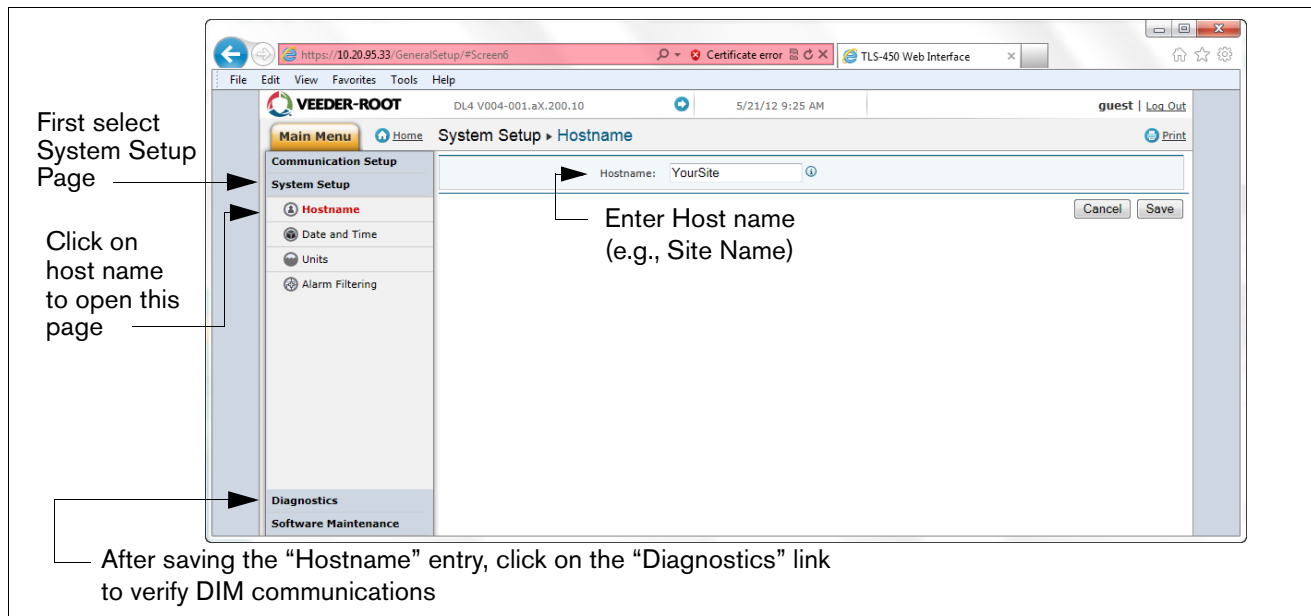

Figure 16. Entering Host name
13. Select the “System Setup” page and type in the Host name and then click the “Save” button (see example in Figure 16). It is recommended that you use the network name assigned by the network administrator or some other name that identifies the location. While on this page click the Diagnostic Page link (bottom Left).